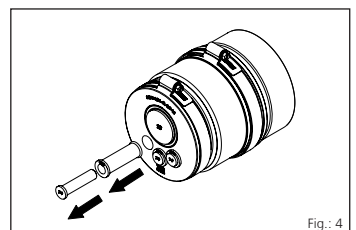

Fig.: 4
**2** In the case of the sleeve caps for electricity/water and communication (**diameter 7 to 40 mm**), the relevant blind plug and segment rings are removed as required (**see table 1**) (see fig.: 4).